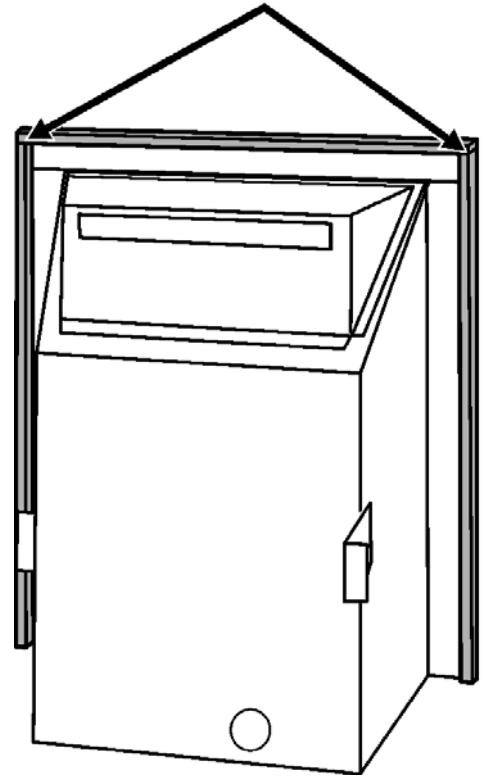

Figure 16. Fitting the foam seal
10. There is a length of self adhesive foam seal supplied with the fire. This will need to be fitted to the outer rear edges of the side and top flanges of the convector box. Cut a 485mm length of foam seal. Be careful not to stretch the seal when measuring. Remove the protective backing from the foam seal and fit this to the rear of the top flange (See figure 16). Cut two 580mm lengths. Fit these to the rear outer edges of the side flanges. Ensure that there is no gap between the foam seals where they meet at the top flange (See figure 16).